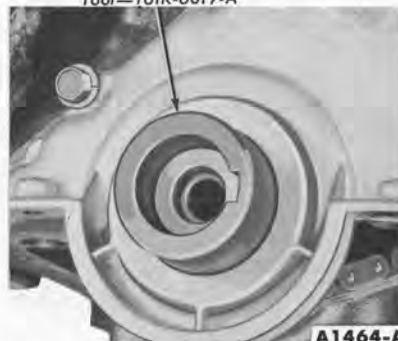

FIG. 47—Cylinder Front Cover Alignment—Typical
2. Clean the cylinder front cover and the gasket surface of the cylinder block. Apply sealer to a new cylinder front cover gasket and position the gasket on the cylinder front cover. Install the cylinder front cover using the tool shown in Fig. 47 (the crankcase ventilation tube bracket is retained by one cylinder front cover bolt). Torque the retaining bolts to specifications.